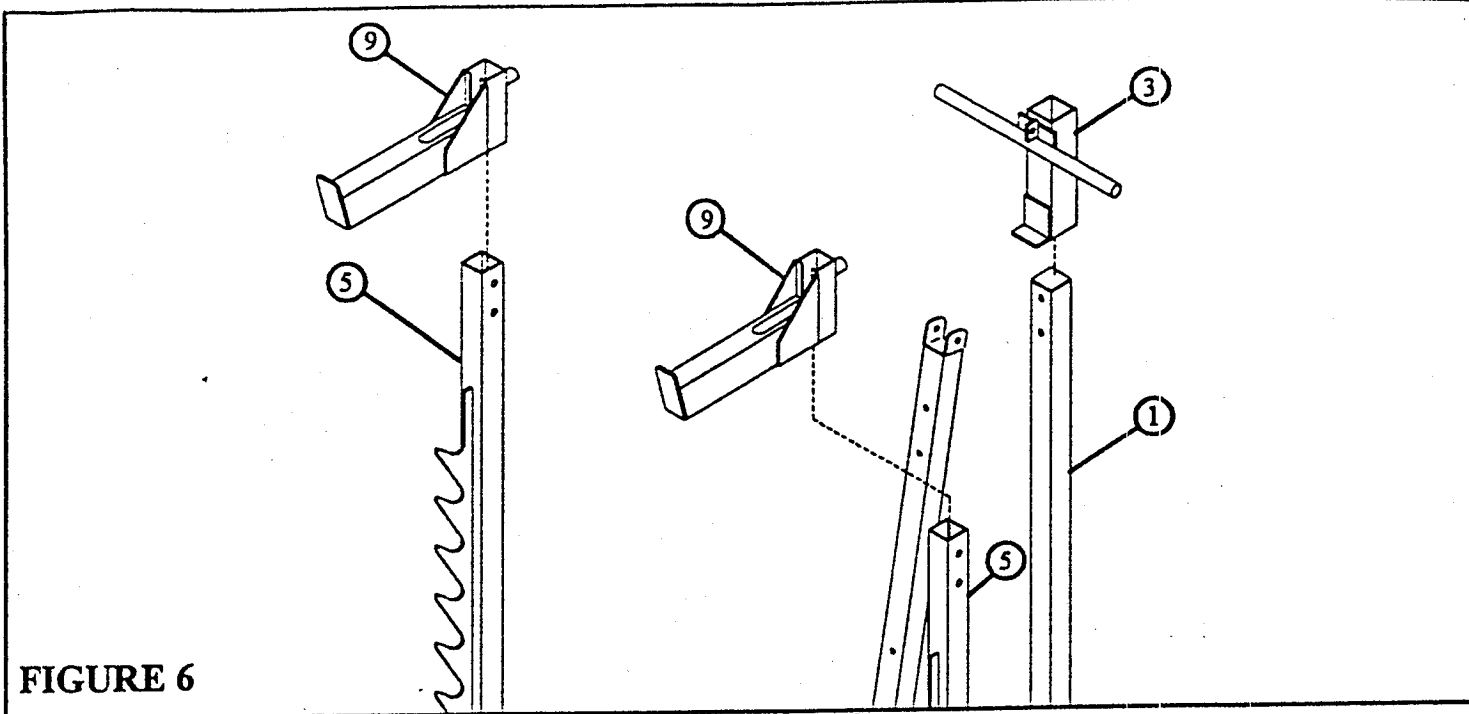

FIGURE 6
- Pull back the SPRING PIN and slide the SAFETY RAILS (9) over the UPRIGHTS (5) until the SPRING PIN is engaged in the first hole.
- Slide the CARRIAGE (3) over the UPRIGHT FRAME (1) as shown in FIGURE 6.